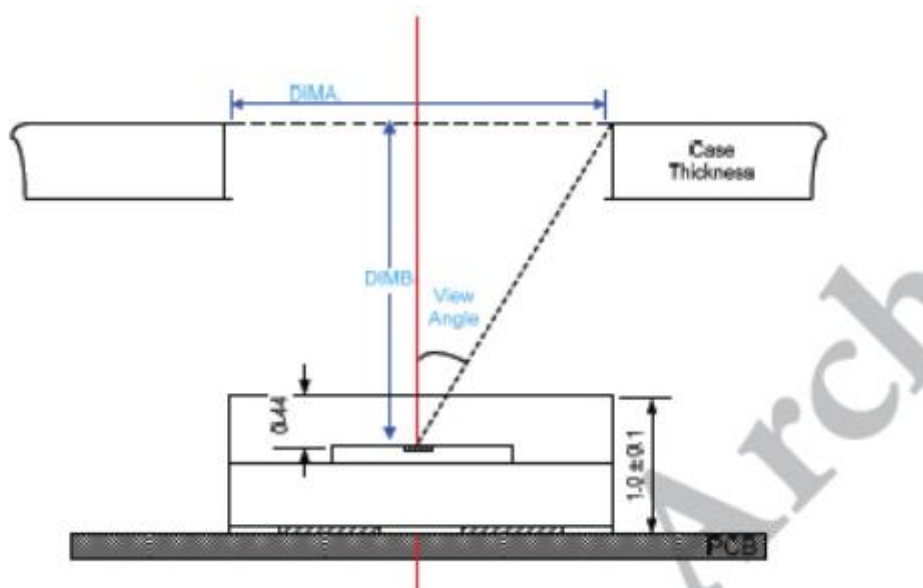

Figure 19-6
- The illumination value receiving from the surface of optical sensor depends on the size of silk screen hole and the ink luminousness, and the incidence angle should larger than ± 30 degree, shown as Figure 19-6, and the specific calculation formula and the reference value please refer to *Capella_ALS Structure Design Guide*.